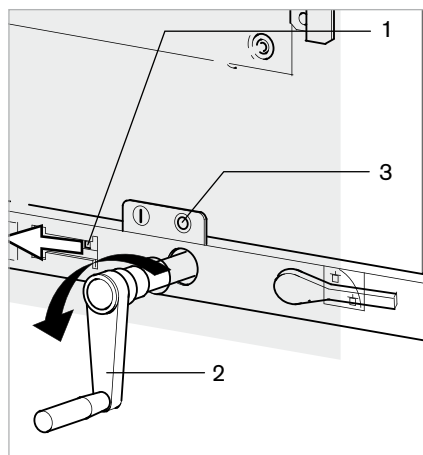

Fig. 51
1. Press the interlocking slide (Fig. 51, item 1) to the left and hold it. Insert crank through the opening in the door onto the drive shaft of the truck (2).
2. Turn crank counter-clockwise until the position indicator above the crank indicates "O" (Fig. 51, item 3). Remove crank.